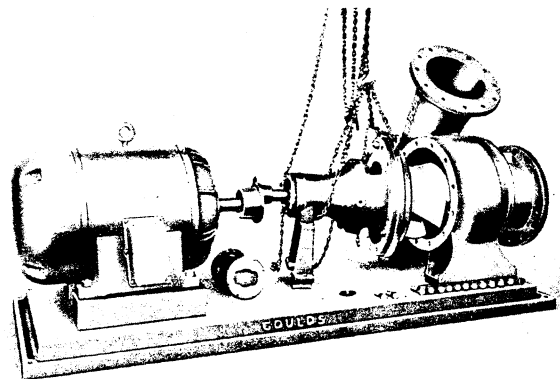

Fig. 15
4. Remove pedestal (131) hold down bolts.
through eye bolts in discharge sideplate (170) (Fig. 15). Balance point is approximately above the deflector (123).
36. Using hoist hooked through suction cover (182) eye bolts, place in position in front of casing (100).
37. Place gasket (351) on suction cover (182) flange and guide cover into matching lock fit in casing.
39. Place rope or chain sling in eye bolts and under bearing frame (249) with balance point approximately over deflector (123). Guide "pull-out assembly" into position on back side of casing (100). (See Fig. 15, page 20).
40. By careful adjustment of hoist, guide impeller and discharge sideplate into back side of casing until jacking bolts (418) contact casing. (See Figs. 15 and 16, page 20).